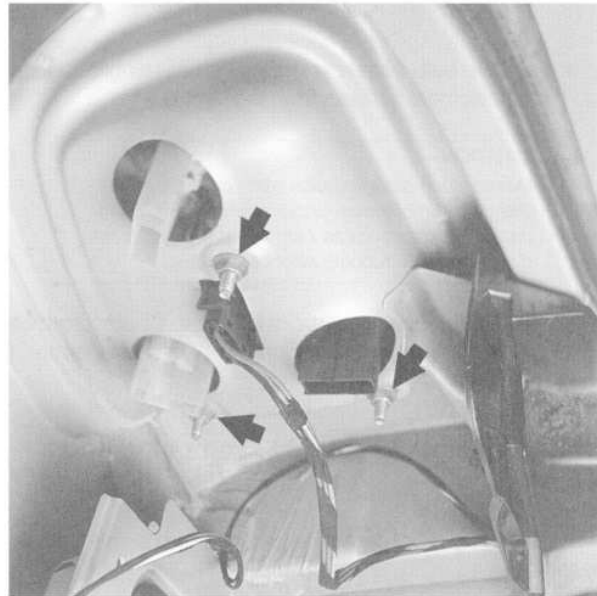

Fig. 11. Taillight lens assembly mounting nuts (**arrows**).
2. Disconnect harness connector from rear of tail light lens assembly and remove nuts. See Fig. 11.